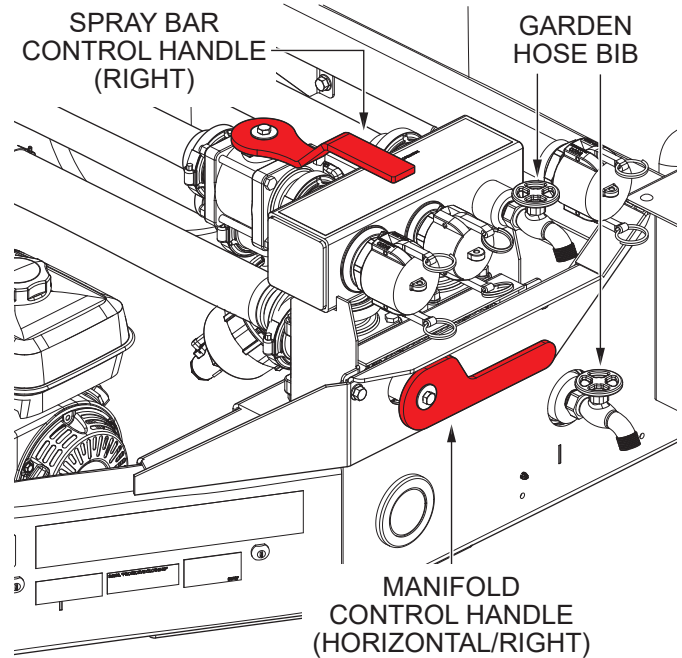
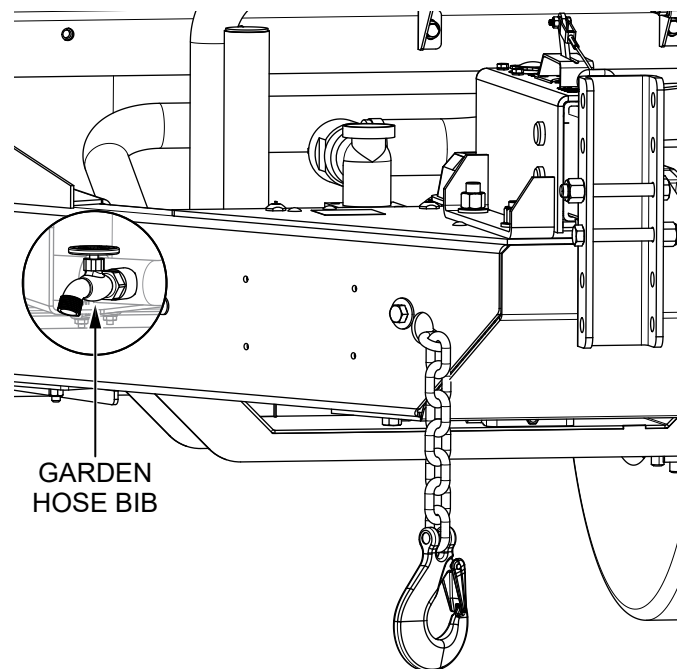

Figure 26. Control Handle Positions And Garden Hose Bib Locations
Figure 27. Third Garden Hose Bib Location
4. Place the **manifold control handle** in the **horizontal/right** position (Figure 26).
5. Place the **spray bar control handle** in the **right** position (Figure 26).
6. Locate and open all three **garden hose bibs**. See Figure 26 and Figure 27.